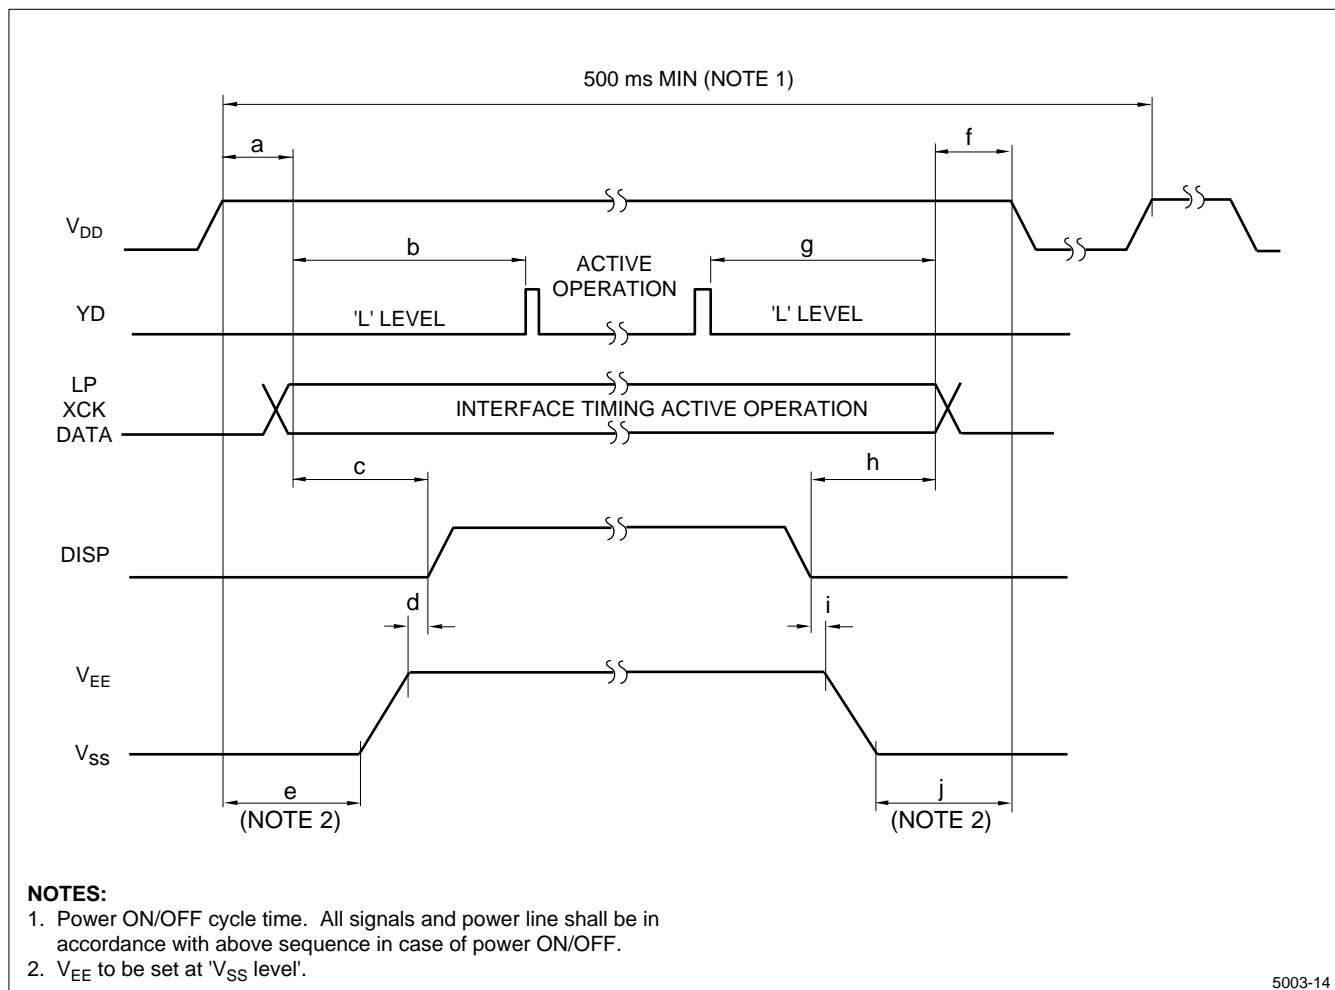

Figure 14. Supply Voltage Sequence Condition
- The unit should be driven according to the specified ratings to avoid malfunction or permanent damage. DC voltage drive leads to rapid deterioration of LC, so ensure that the drive is alternating wave form by continuous application of the signal M. Avoid latch-up of driver LSIs and application of DC voltage to the LCD panel by following the ON/OFF sequence shown in Figure 14 and Table 1.